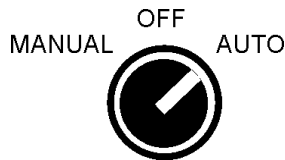

Figure 8. Manual-Off-On SW. (Auto Position)
5. To operate the pump automatically (float switches), place the 3-position operation switch in the **AUTO** position (Figure 8).